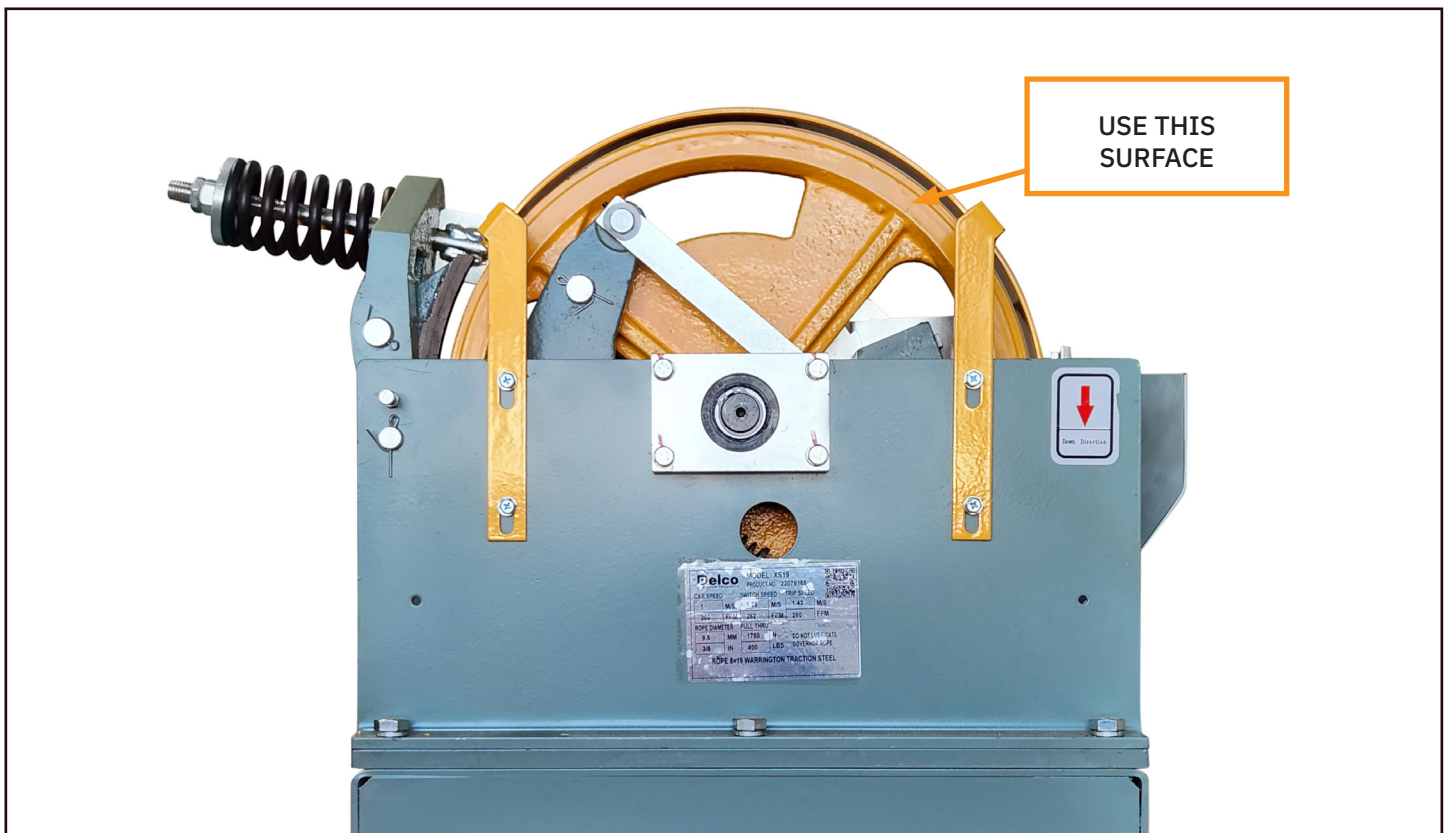

Figure 1
- With a rubber drive wheel held against the governor sheave outside face (see *figure 1*), slowly and gradually accelerate the governor sheave to rotate in the direction indicated by the red arrow on the housing, until it trips the electrical switch (the trip arm is not horizontal and the electrical contact is open).
- Apply lubricant at all lubrication points shown in figure 1.